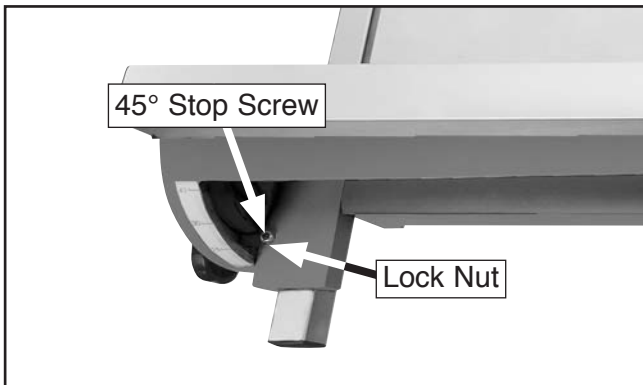

Figure 75. Adjusting fence 45° outward.
- Loosen lock nut on 45° fence stop screw (see **Figure 75**).